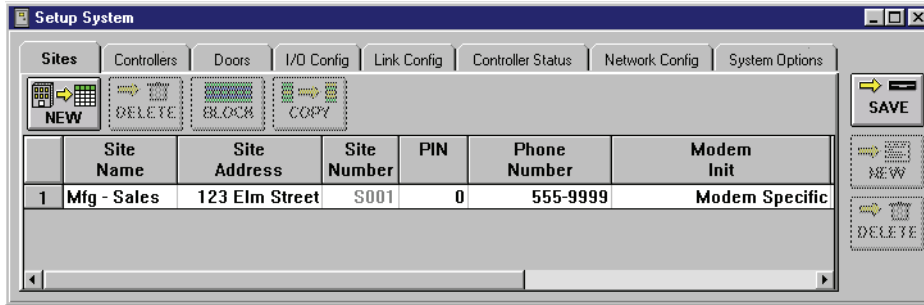

Figure 8-27: Site Deleted
- Click on the  button. The site is removed from the *Doors* databases (see Figure 8-27).